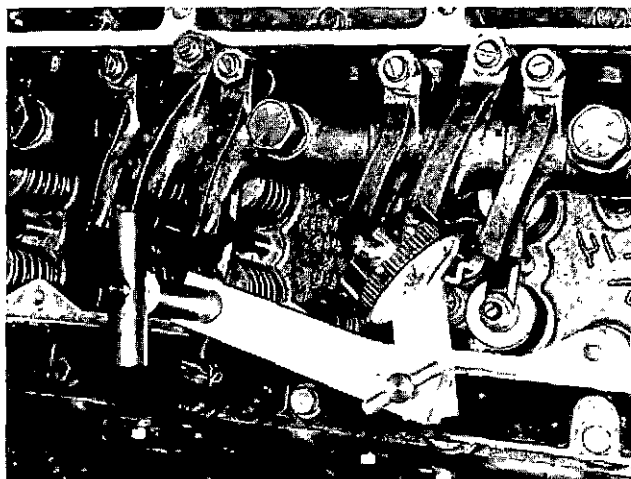

Fig. 2-51 (V514114) Dial indicator in place - extension in contact with plunger, V-903 Series
1. Set up ST-1170 Indicator Support with the indicator extension atop injector plunger flange at No. 2 cylinder. Fig. 2-51.